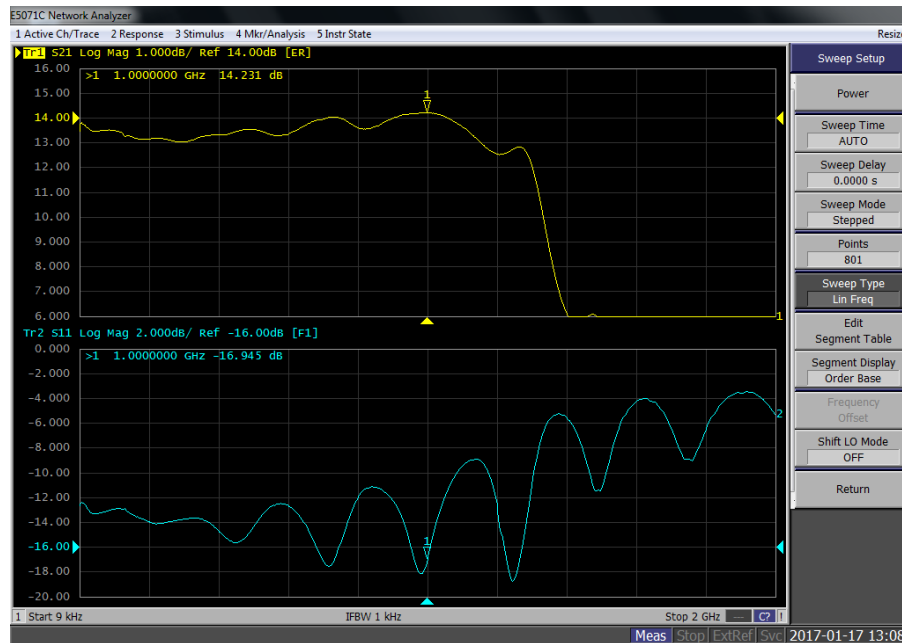

Figure 4-3 Typical 25W Module Response
2. Typical Module response is shown in Figure 4-3.